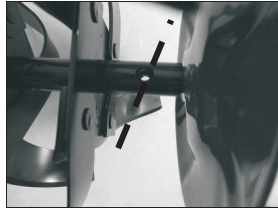

Fig.3C
2. Align the hole of the shaft. (Fig.3C)